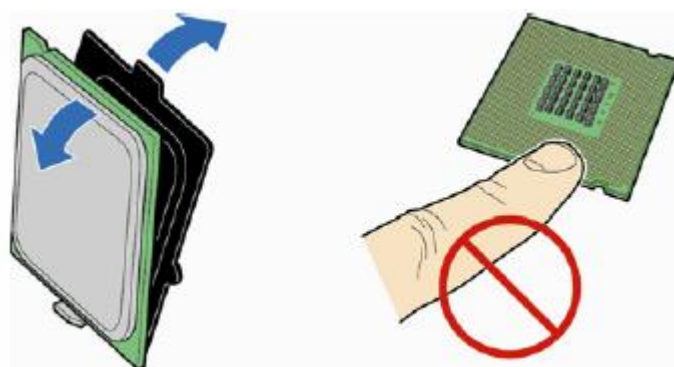

Figure 21: Remove the processor from the protective cover
3. Remove the processor from its protective cover. Hold the processor only at the edges, being careful not to touch the bottom of the processor (see Figure 21).